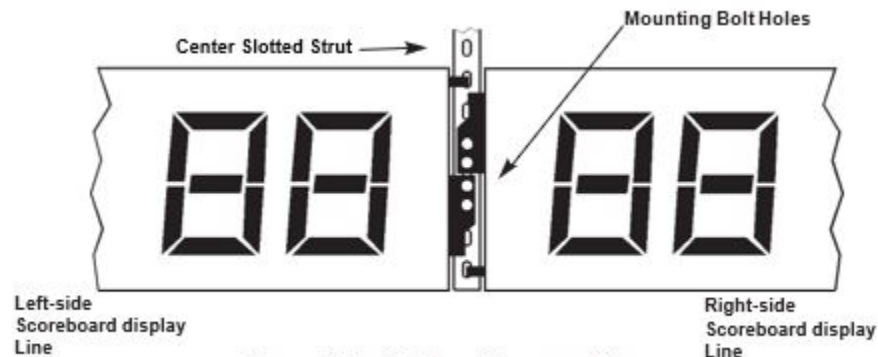

Figure 3-N: Side-by-side mounting
- 5) Follow steps 1-3 for this scoreboard display line, but note how the scoreboard display line's mounting tabs align on the center slotted strut as shown in Figure 3-N.